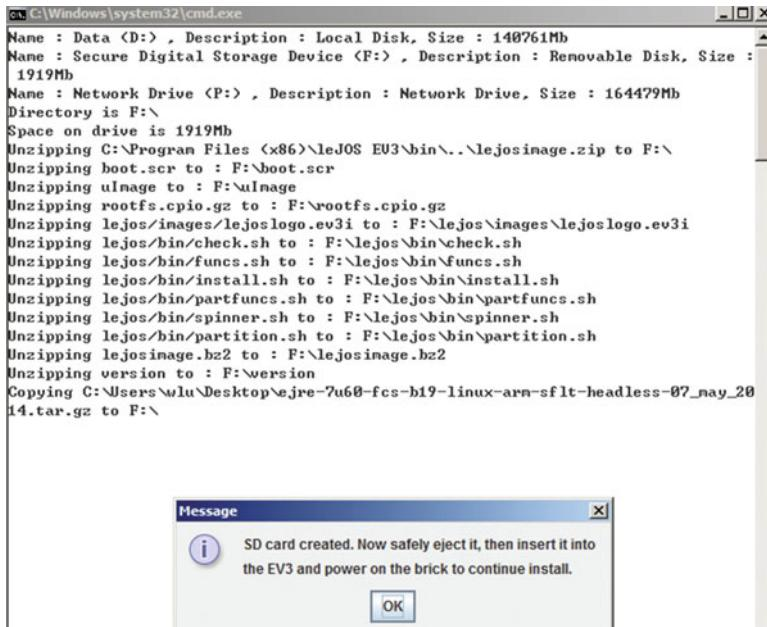

Figure 1-17. Installing the leJOS firmware into the SD card
10. Choose the right SD Card drive, click the link to *Download the EV3 Oracle JRE*, and select the corresponding .gz file. Then click the *Create* button and you will see that the EV3 firmware is burned into the SD card, as shown in Figure 1-17.